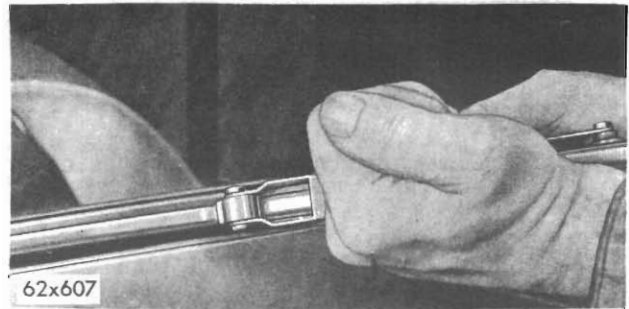

Fig. 36 - Locking windshield or rear window weatherstrip (typical view)
(8) Lock the weatherstrip by installing the mylar locking trim with Tool No. E23C5C (Fig. 36).
(8) Start at lower corner of window and trim strip to length after it is fully inserted around window (see Fig. 36).
(9) Re-install corner trim pieces correctly. Test seal as described in para. 25.